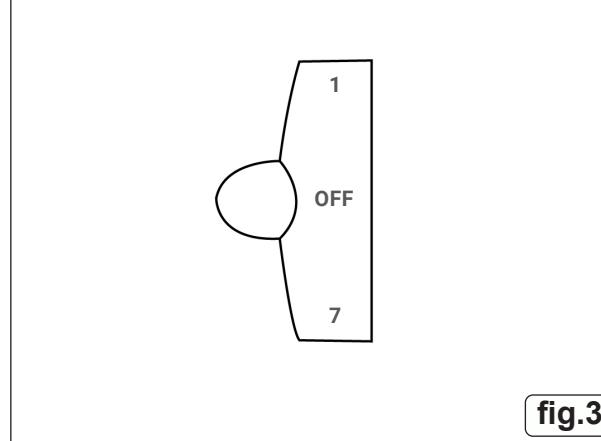

fig.3
- OFF** – Turns off the cooling function. See fig.3 Recommended Settings.